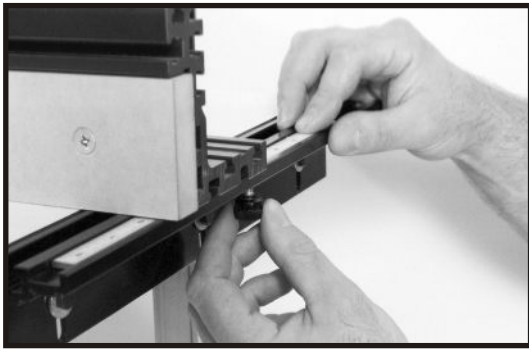

FIG. 10
10. The scales on the fence tracks are adjustable for added versatility in positioning the fence. To adjust the scales loosen the knurled nut underneath the fence track adjust the scale and re-tighten the nut (Fig. 10). You can use the scales as a zero reference point by adjusting the scales to "0" once your fence is set up in your desired position relevant to the router bit you are using.